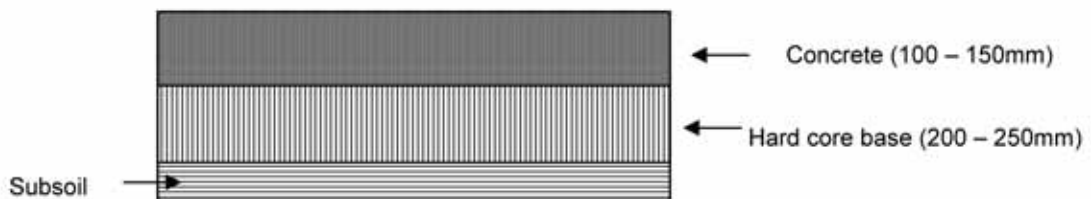

Figure 3: Concrete roadway / track
- Normally 100mm of concrete is sufficient, although if the roadway is to be used by heavy machinery a depth of 150mm of concrete is required (See Figure 3).